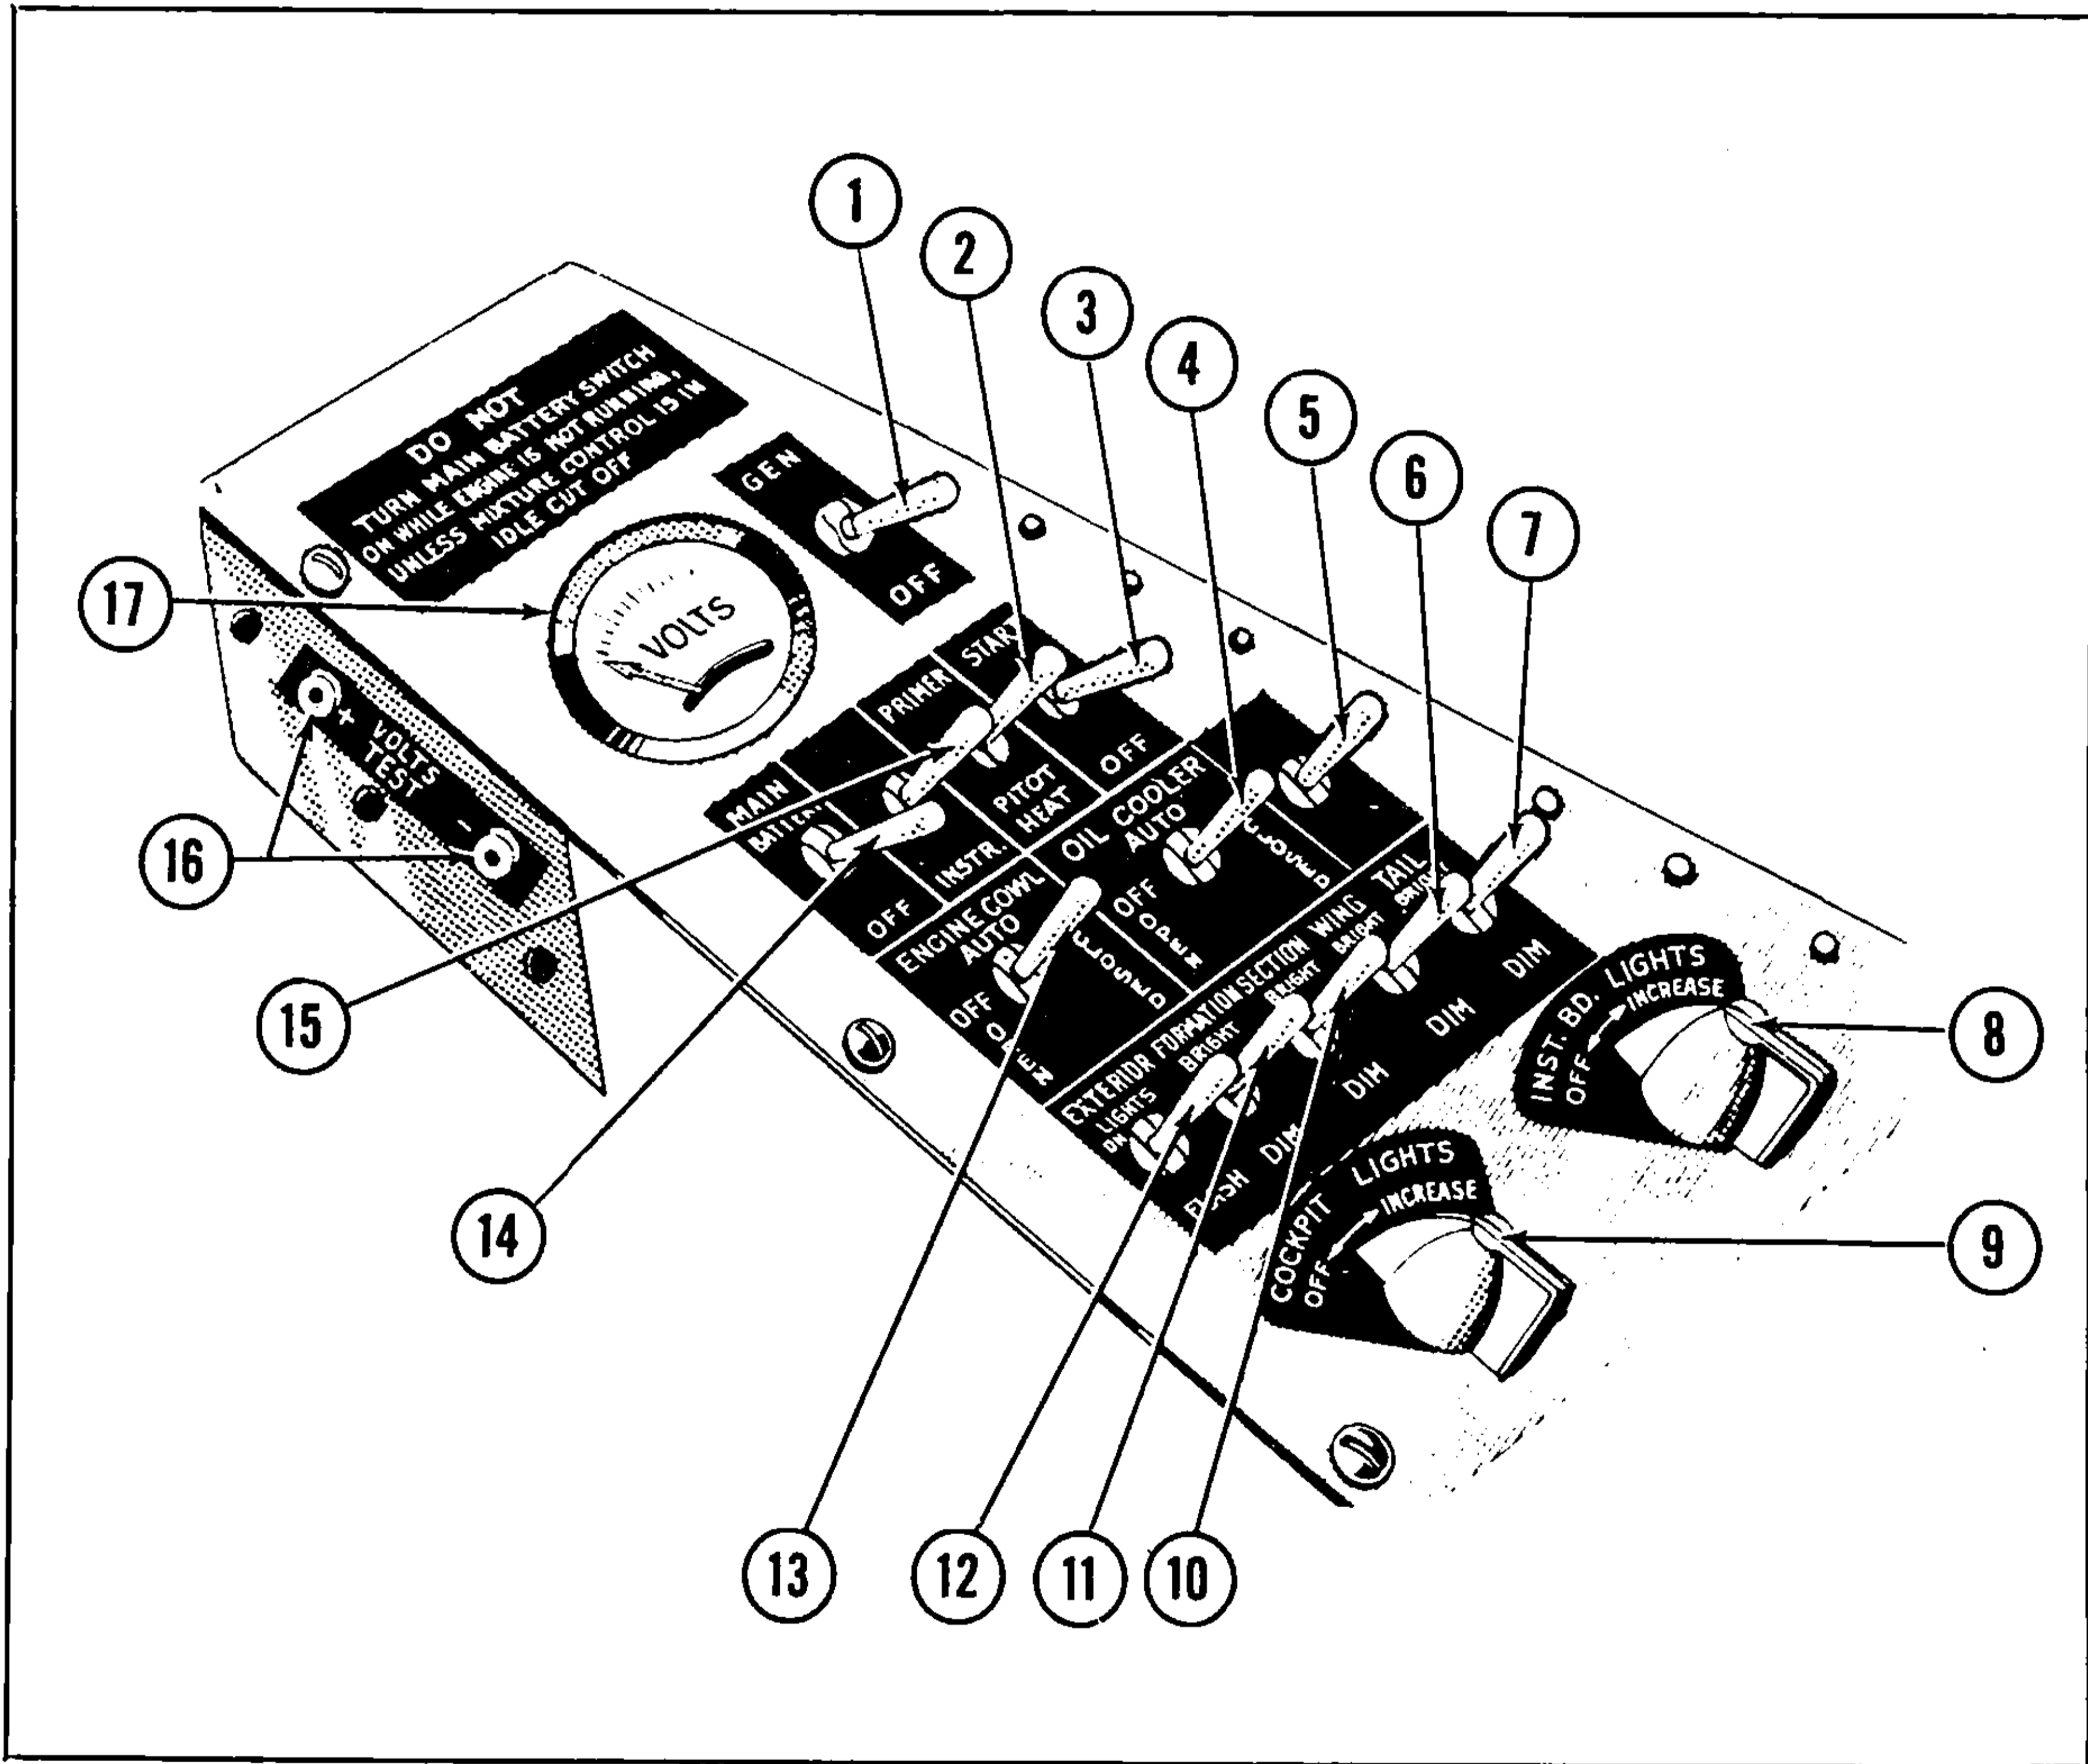

Figure 40 — Electrical Control Panel
a. Are other electrical appliances (radio, gun sight, etc.) operating normally, indicating that the power supply is satisfactory? If they are not functioning, check to see that the generator switch is on (forward position). (See 1, figure 40.)
(5) GUN HEATING. — The guns are heated by electrical units mounted on the gun breeches. There is no cockpit control for these heaters; they are energized directly from the generator and are heated at any time that the engine is running and the generator switch (see 1, figure 40) is on.